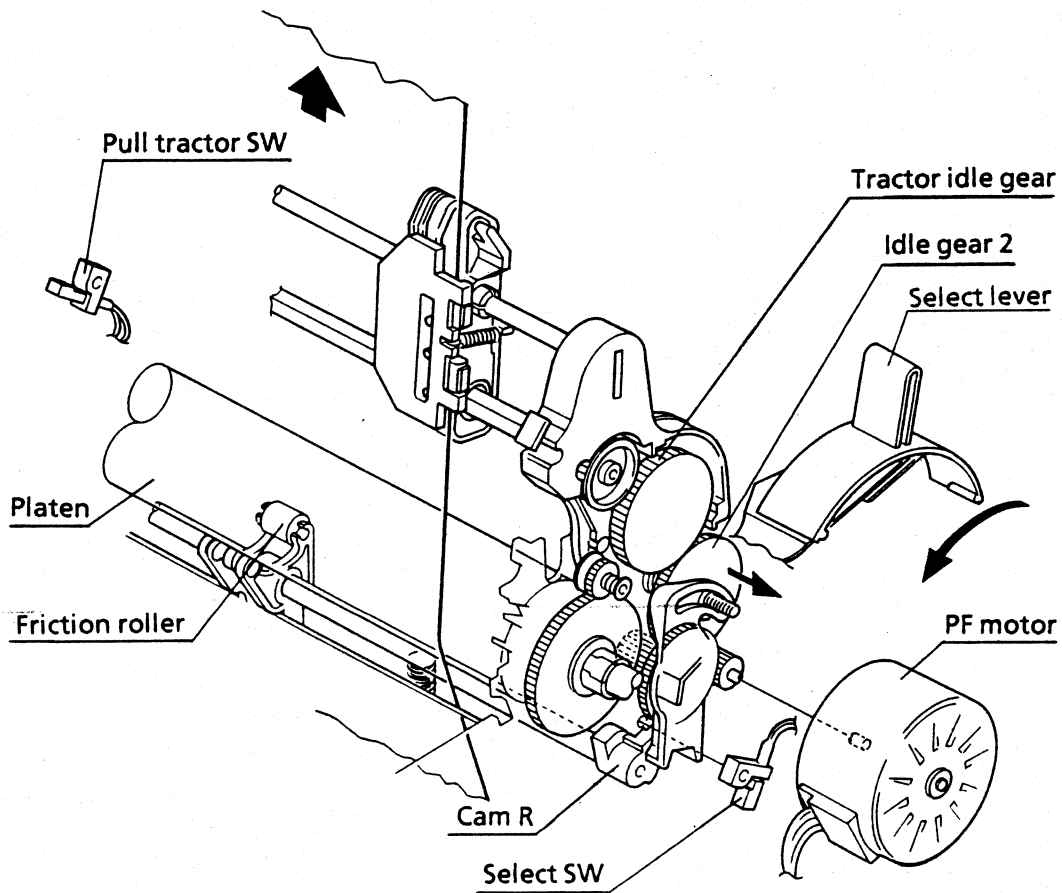

Fig. 7
(3) Tractor feed mechanism (Pull) (See Fig. 7)